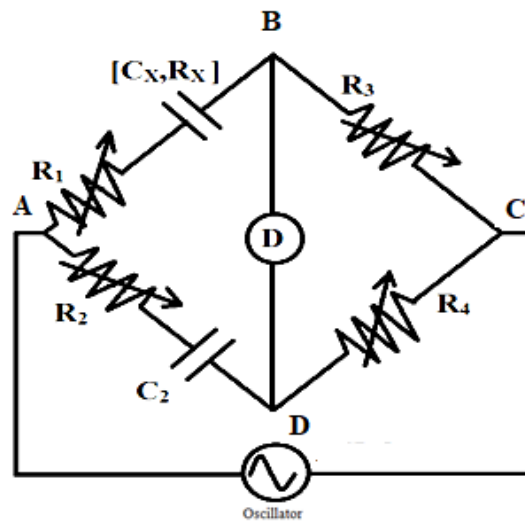

Fig. 2
1. Make the connections as shown in circuit diagram Fig. 2. The given unknown capacitor, C_x is connected in the arm A & B of the bridge.